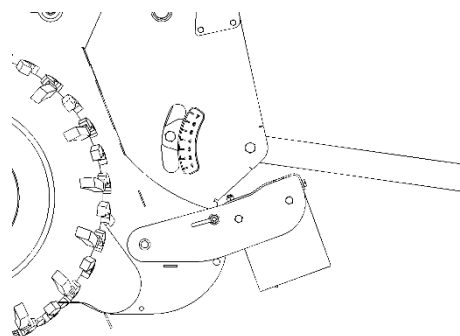

Fig 5
1. Lock tine bar assembly into upper most position (shown in *fig 5*)